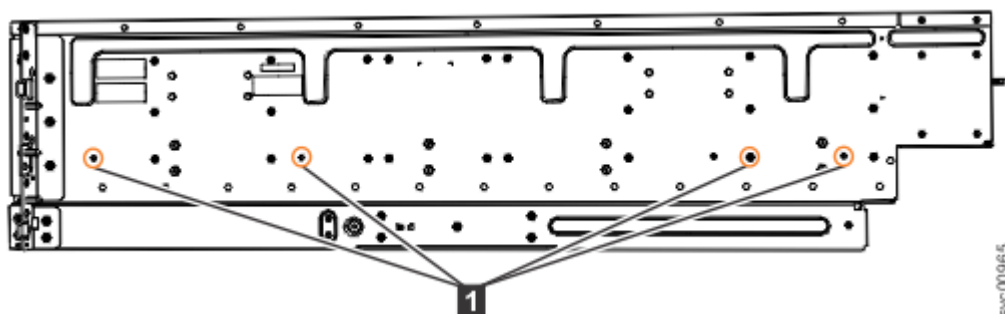

Figure 45. Screw locations to attach the inner rail to the enclosure
4. Use four M4 screws to attach the inner rail to the side of the enclosure. Figure 45 on page 48 shows the screw locations.